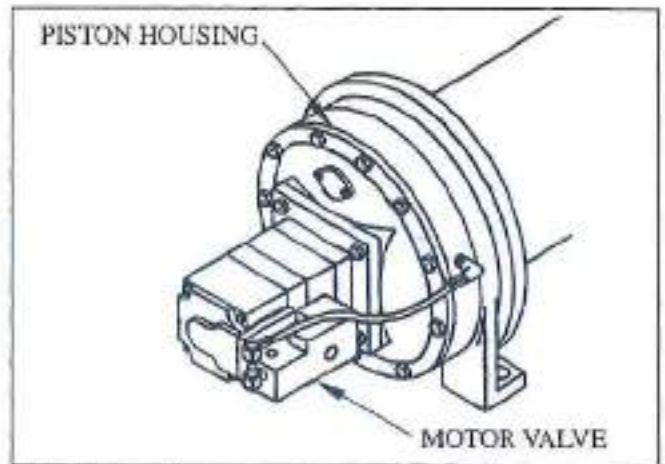

Figure 1
- (2) Remove the four capscrews which secure the motor. See Figure 1.